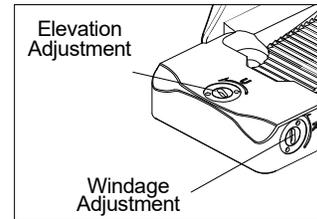

Fig 7
- tipped end of the included tool into the turret slot and rotating, See Fig 7.